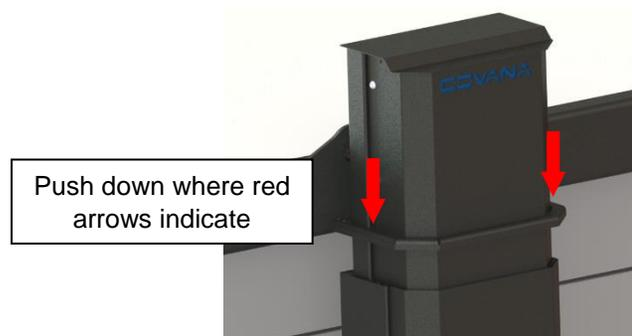

Figure 87
- 27) For both post assemblies, slide the all-weather seals down. Ensure they are properly resting on the outer sleeves' top. Push down on the seal as shown. (Figure 87)